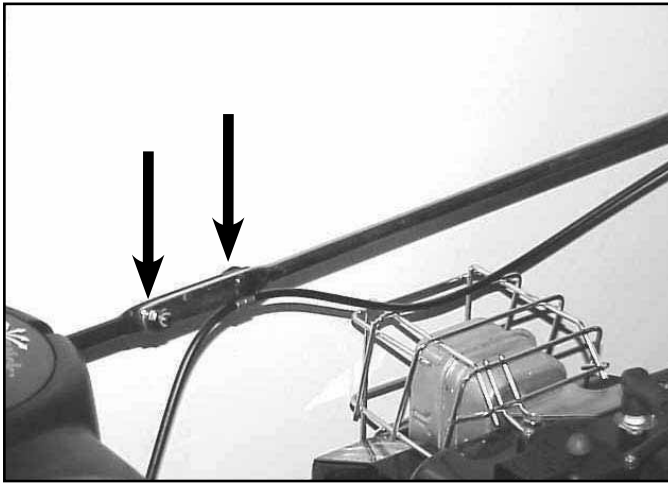

Fig 086
3. Remove the two carriage bolts on the chute control rod (Fig. 086).